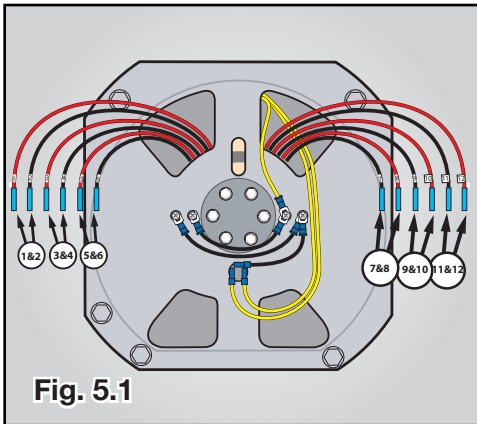

Fig. 5.1
- Test winding pairs (1 & 2, 3 & 4, 5 & 6, 7 & 8, 9 & 10, 11 & 12,) (See Fig. 5.1)